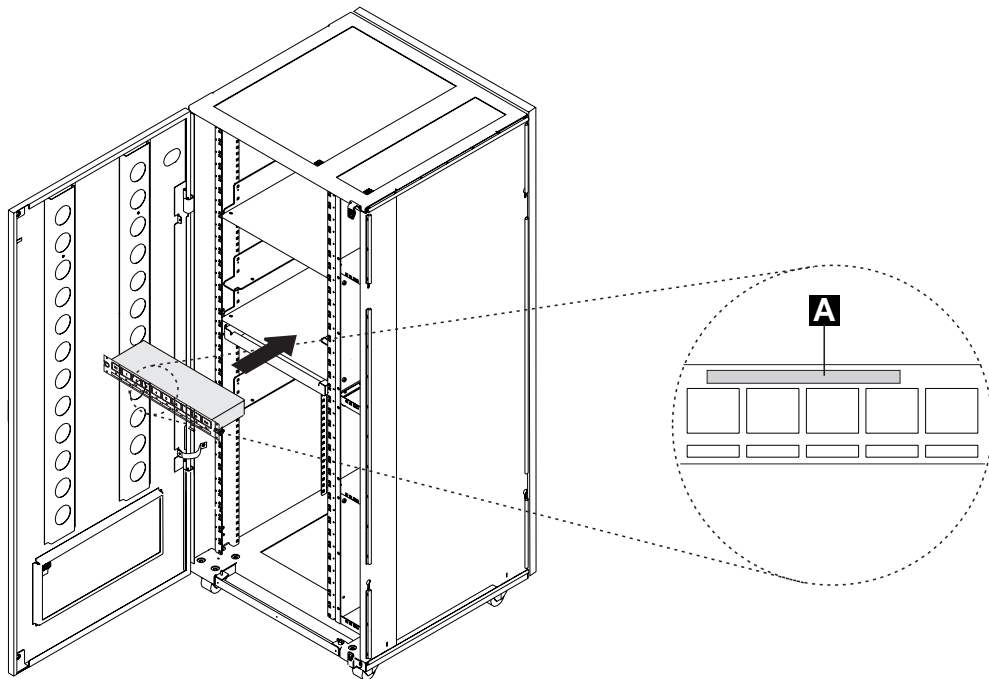

Figure 1-61. Installing the 8228 (Controller Expansion Rear side)
6. ____ Install the 8228 in a safe place near the service processor. If you received a controller expansion, the 8228 is installed on the rear side of the controller expansion using two screws (PN 1621232) and two captive nuts (PN 58G5766) see Figure 1-61. Using label **A** (PN 80G0680), identify the 8228 as Service Processor Access Unit.